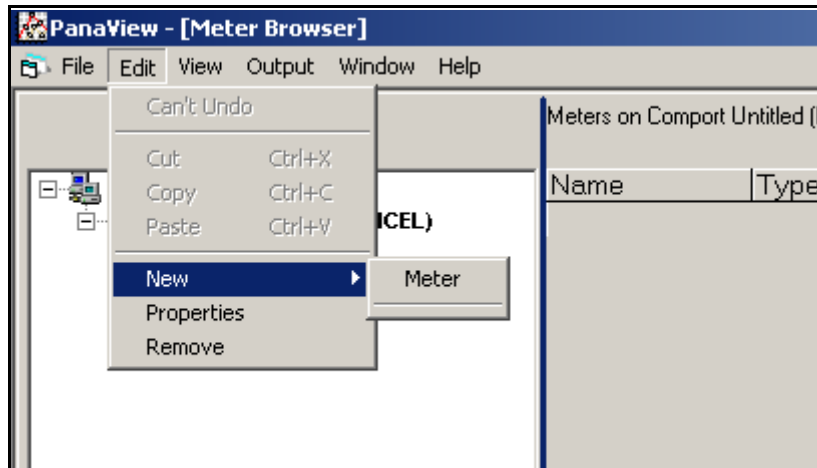

Figure 79: "New" Option in the "Edit" Menu
2. Click on the "New" option in the "Edit" menu (see Figure 79 below).